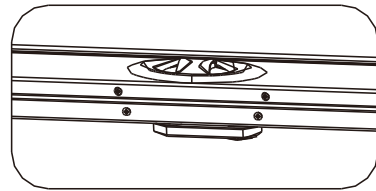

Figure1
1. Stay the screen on suitable position and the screen faces to projector, and the set up the foot of screen (figure 1, 2 and 3)